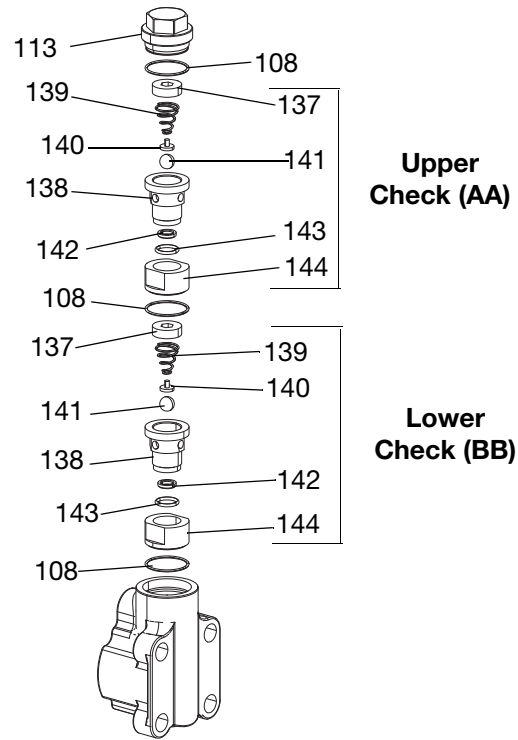

FIG. 4
4. Remove upper check assembly (AA), including the spring retainer (137), check housing (138), conical spring (139), ball housing retainer (140), ball (141), carbide seat (142), O-ring (143), retainer (144), and O-ring (108).
5. Remove lower check (BB), including the spring retainer (137), check housing (138), conical spring (139), ball housing retainer (140), ball (141), carbide seat (142), O-ring (143), retainer (144), and O-ring (108). See FIG. 4.